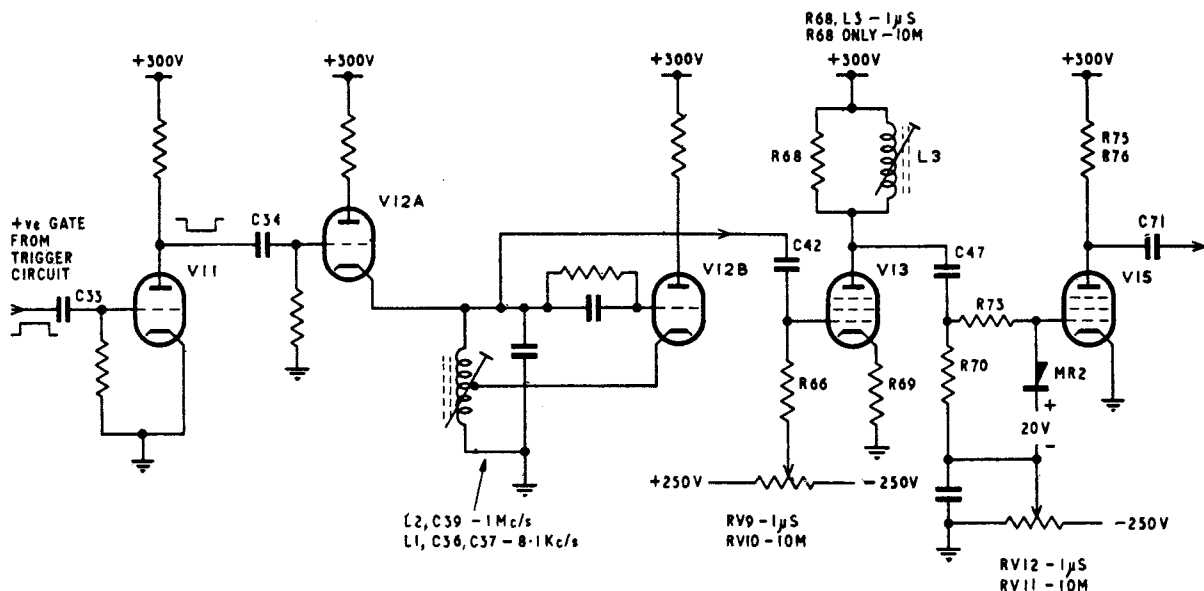

Fig. 8. Simplified diagram of calibrator circuit
47. A simplified diagram of the calibrator circuit is shown in fig. 8. For the sake of clarity the relay switching has been omitted. The positive-going rectangular gate waveform from V3b cathode is fed via C33 to the grid of V11, a triode-connected CV4014 amplifier stage. The negative-going waveform produced at the anode of this valve (fig. 19 SKTJ) is applied via C34 to the grid of V12a. This stage, which is connected as a clamp valve across the oscillator tuned circuit, is normally conducting,